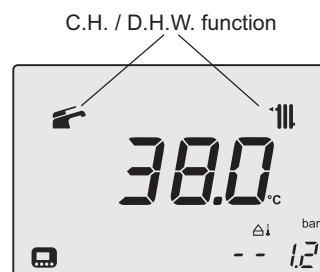

Figure 11.3
- 6 Set the boiler in C.H. / D.H.W. function as illustrated in Figure 11.3.